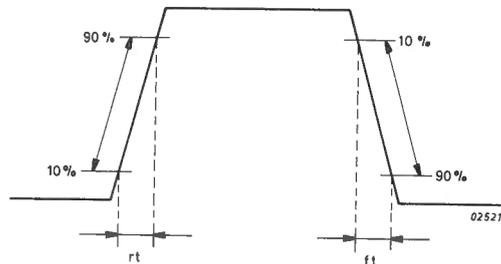

Figure 8.8 VIDEO RISE AND FALL TIMES
- l. Using a type PM8932 (2pF 100X) probe monitor the video rise and fall times at the output stage of the video amplifier transistor V101 (see figure 8.8).